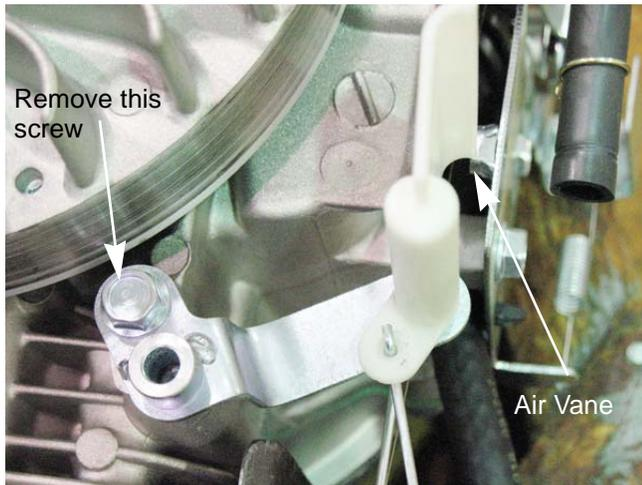

Figure 4.32
2. Loosen the screw that secures the air vane bracket to the cylinder block using a 10mm wrench. See Figure 4.32.